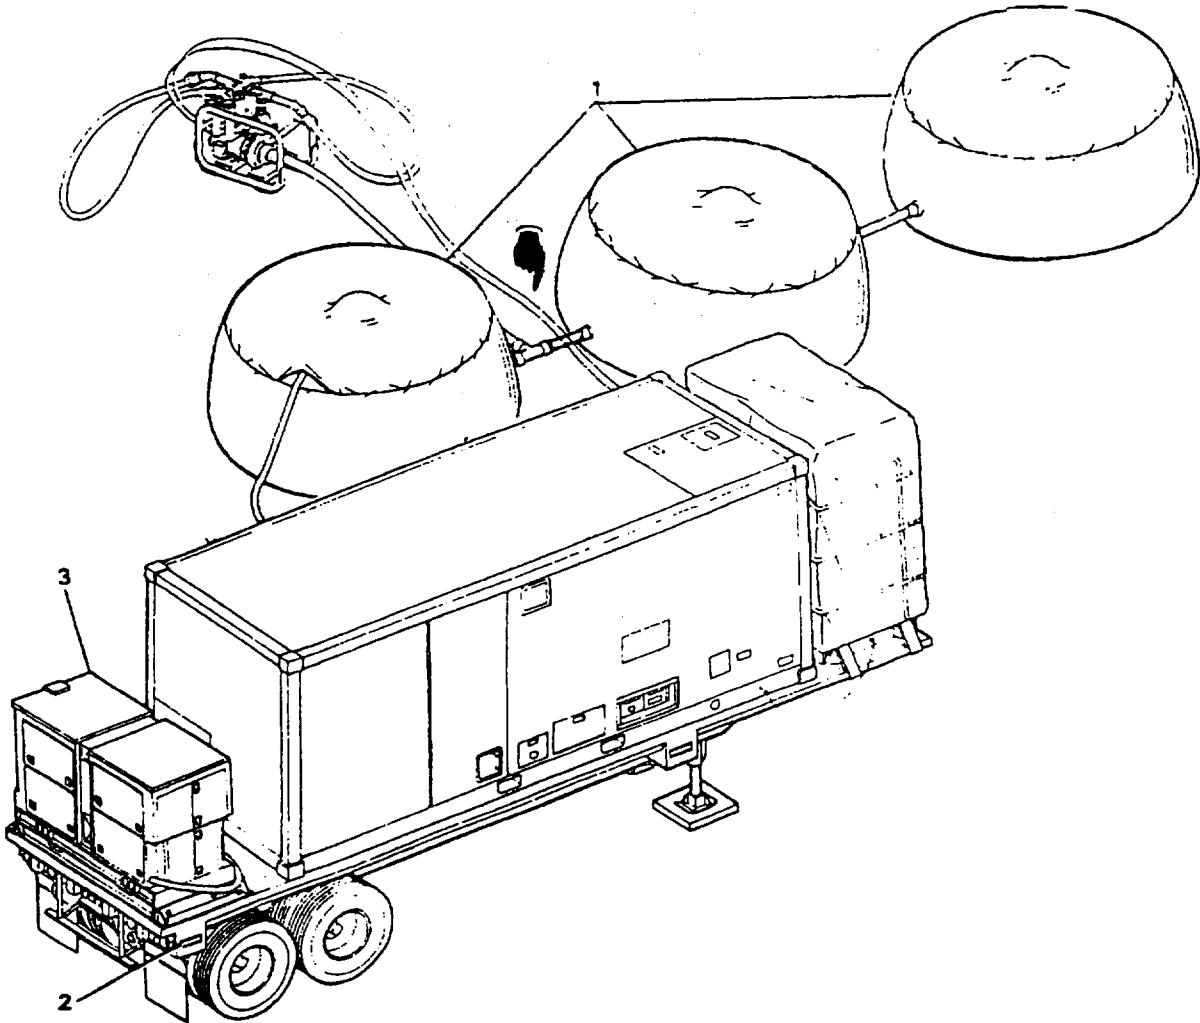

Figure 1-7. *Government Furnished Property*
- (2) *Distribution Pump Heat Lamp*(2). With 55 ft (17 m) of permanently attached cable.
- (3) *Raw Water Pump Heat Lamp*(3). With 110 ft (34 m) of permanently attached cable.
- (4) *Extension Cord* (4). This 110 ft (34 m) cable is used if the cable on item 3 above does not reach the heater outlet on the van.
- (5) *Electrical Harness* (5). Used to connect one of the van's diesel heaters to the generator battery to provide power for the heater during transport and when power to the ROWPU is off.
- (6) *Raw Water Pump Drain Hose* (6).
- (7) *Distribution Pump Drain Hose* (7).
- (8) *Distribution Pump Cover* (8).
- (9) *Raw Water Pump Cover* (9).
- (10) *Distribution Pump Skid* (10).
- (11) *Raw Water Pump Skid* (11).
- e. *Government Furnished Property* (Figure 1-7). The following items, furnished by the government are required for operation of the ROWPU.